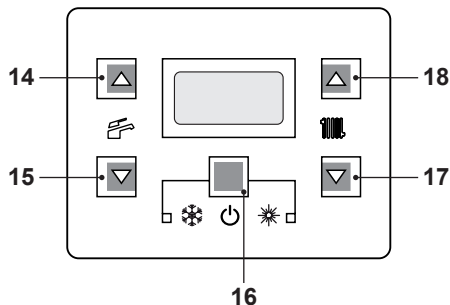
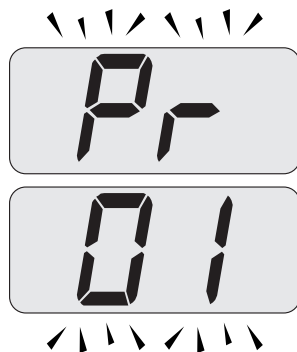
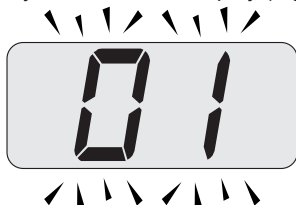

Fig. 8.36
Fig. 8.37
Fig. 8.38
- Enter the "programming mode" by sequentially pressing and holding in keys, 16 - 17 and then 18 (Fig. 8.36) for 10 seconds until the letters **Pr** that alternate with code **01** are displayed on the LCD display, indicating that "parameter 01" (Fig. 8.37) has been activated.
- Press keys 16 and 18 (Fig. 8.36) at the same time until the value of parameter 01 (60=**Advance Plus 25C ERP** or 63=**Advance Plus 30C ERP** or 64=**Advance Plus 35C ERP**) is displayed on the LCD display (Fig. 8.38).
- Press keys 16 and 17 (Fig. 8.36) at the same time to exit without changing the value (return to the parameters list Fig. 8.37).
- Press sequentially keys, 16 - 17 and then 18 (Fig. 8.36) and hold in for 10 seconds to exit the "programming mode".